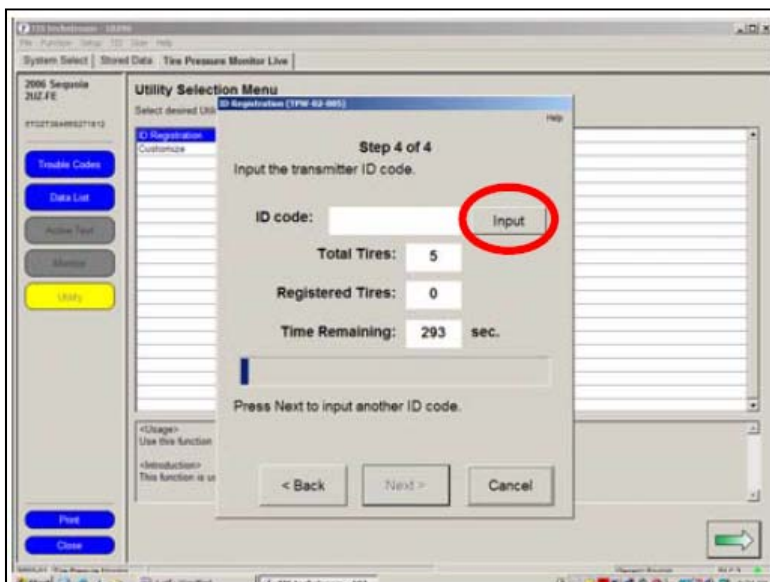

Figure 14f
- i. Select “Next” for Steps 1 through 3. Select “Input” in Step 4 to begin TPMS ID registration. See Figure 14f.